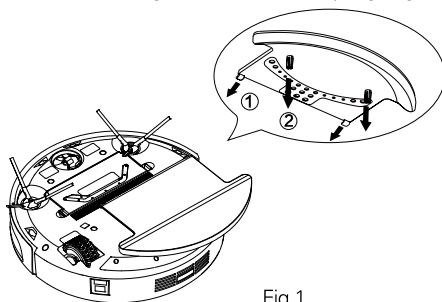

Fig.1
2. As shown in Fig. 1, mount the trailing bar onto the unit by aligning it with holes.